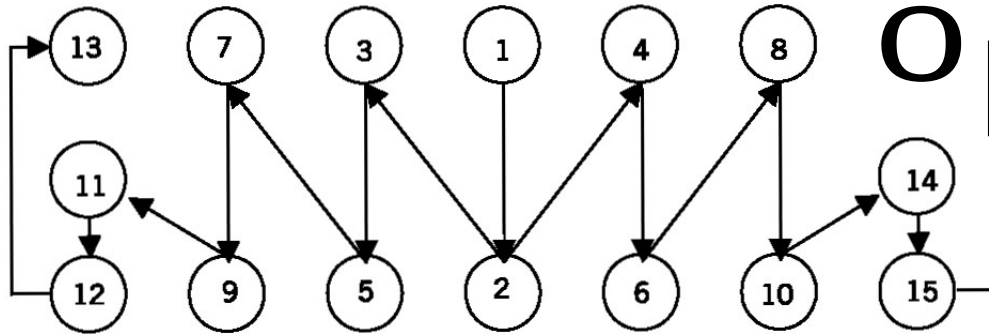

Figure 1-Torque Pattern
- b. Tighten all nuts per Figure 1 - Torque Pattern, to 35 ft-lb torque. After the initial torque has been applied re-torque them to 50 ft-lb, again using the pattern shown in Figure 1. The permissible range of final torque values are as follows:
Re-torque nuts to 50 ft-lb per Figure 1 - Torque Pattern.